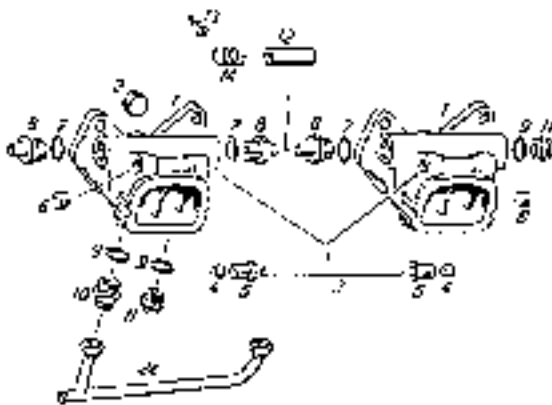

Fig. 01-4/16
2. Unscrew the coupling nuts (5) and remove the compensating line (3) together with the clamp rings (4) (see Fig. 01-4/16).